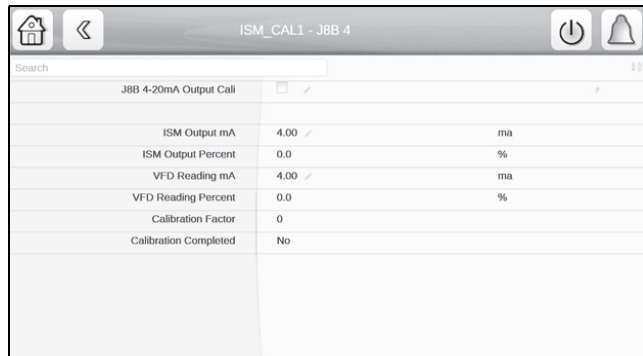

Fig. 46 — ISM_CAL1 Screen
- Select J8B 4-20mA Output. The ISM_CAL1 screen is displayed. See Fig. 46.